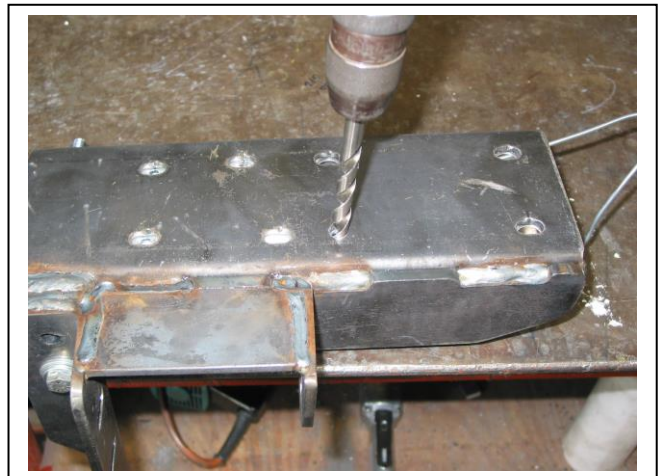

Figure 4
12. Drill two 10mm holes through alloy cross member from the back to the front using steel mounting brackets as a guide. Turn alloy cross member over and drill two 25mm holes through front and centre web to allow a 14mm socket to fit through. **NOTE:** You may use a hole-saw or die grinder to achieve a 25mm hole. **See figures 4 and 5.**